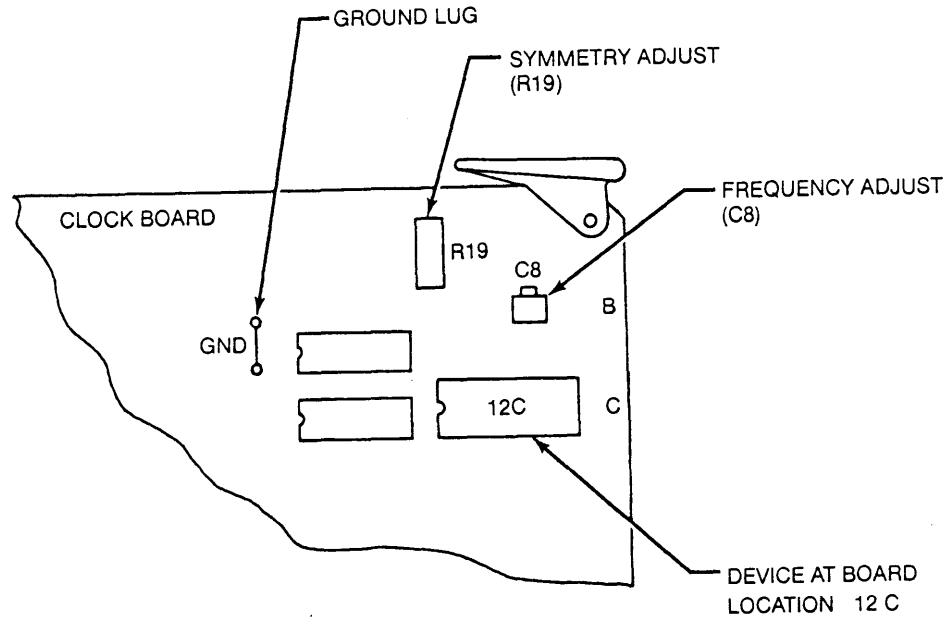

Figure 3-9. Clock Board Internal Clock Adjustment
5. Connect the oscilloscope probe tip input to pin 12 (output) on the 100102 IC device at board location 12C. Connect the probe ground lead to the ground lug at board location 11B. See Figure 3-9 for clock board component locations.